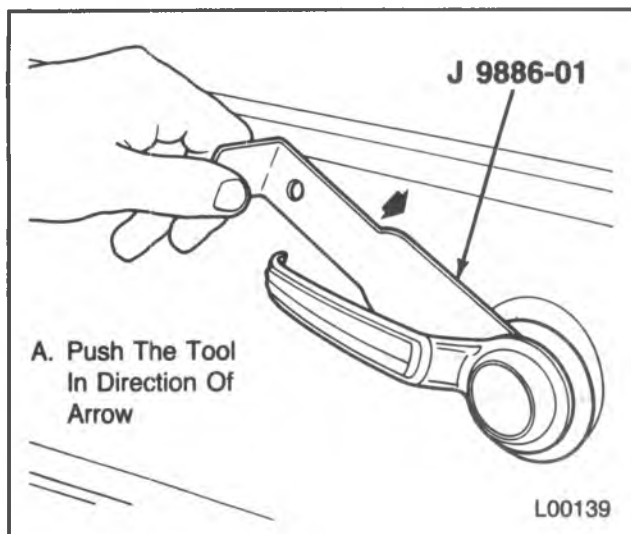

Figure 60 — Door Handle Clip Remover
3. Door control assembly handle using J 9886-01 (figure 60).